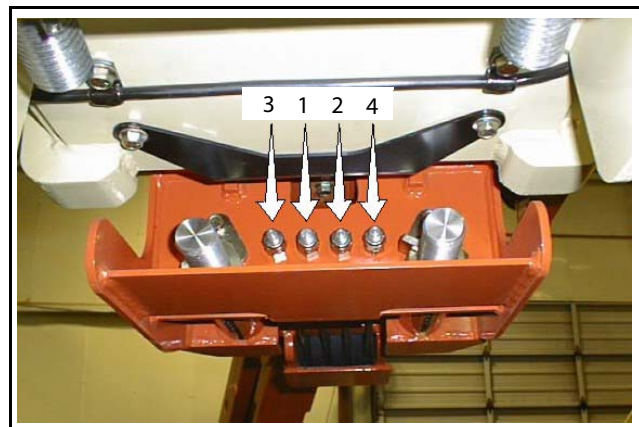

Figure 4-29. Torque Sequence for Fly Extend Rope
- Using tool JLG p/n 4120040, torque the Fly Extend Adjustment Nuts to 10 ft-lb (13.5 Nm), starting with the inside ropes and doing the outside ropes last. Refer to Figure 4-29., Torque Sequence for Fly Extend Rope. Alternate between the four ropes until all maintain the required torque.